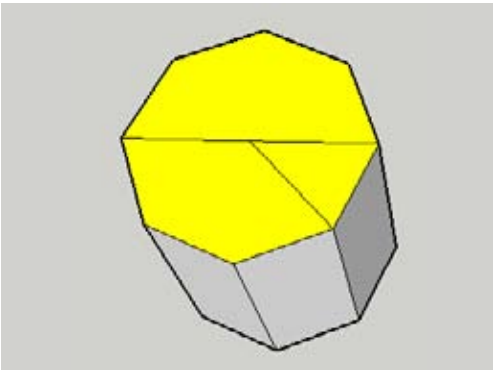

Figure 5-76
2. The next step is to establish the center point of the top octagon and pull it up, to create the top umbrella point and define the slope off the umbrella flaps. You could draw separate lines from the center to each of the eight corners, but Autofold provides an easier way. Create just the two lines shown in Figure 5-76.